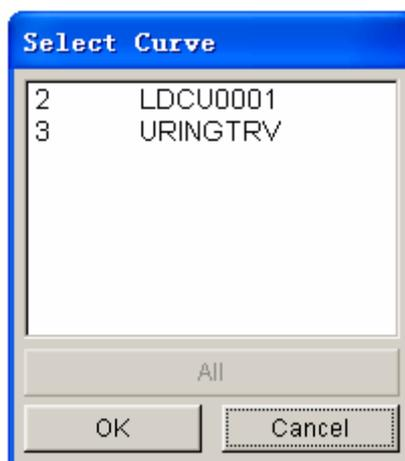

Figure 11.13.10 Select Curve for Renumber
- Select a curve from the SELECT CURVE dialog box shown in Figure 11.13.10.
Select the load curve from the SELECT CURVE dialog box shown in Figure 11.13.10.